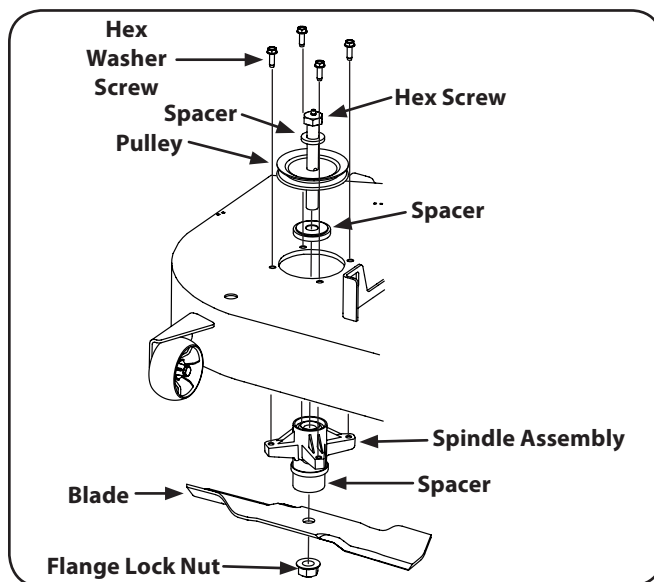

Figure 7-11
- Using a ½" socket breaker bar or socket ratchet insert the male end into the ½" square opening in the lower idler arm assembly/Idler pulley bracket and pull the idler arm/pulley bracket clockwise. See Fig. 7-11. While holding the idler arm back, loosen the deck belt from the pulleys and slide the belt away from the pulley.
2. Use a $\frac{3}{4}$ " wrench to hold the hex washer screw on the top of the spindle assembly when loosening the flange lock nut securing the blade. See Fig. 7-11.